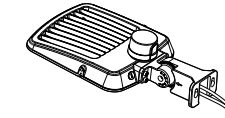

Figure 8
Step 2: Install the bracket on the fixture(Figure8).